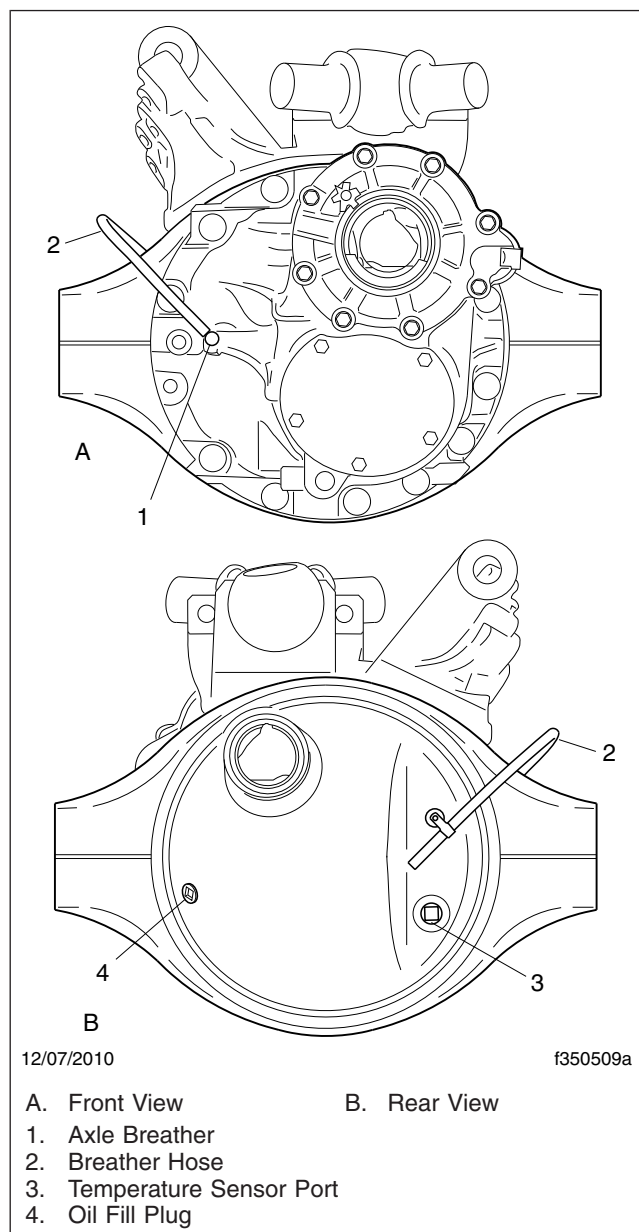

Fig. 1, Detroit Tandem Axle (forward axle shown)
2. Clean the fill plug and the area around it. In the axle housing rear cover, remove the plug from the oil fill hole. See **Fig. 1**.